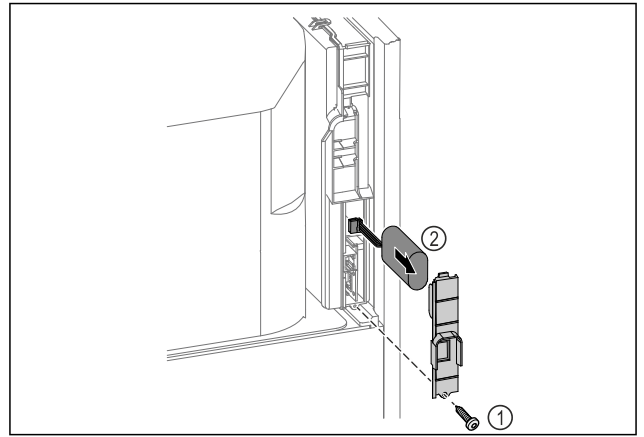

Fig. 222
- Unscrew screw and remove cover from the back of the appliance Fig. 222 (1).
- Disconnect and remove battery Fig. 222 (2).